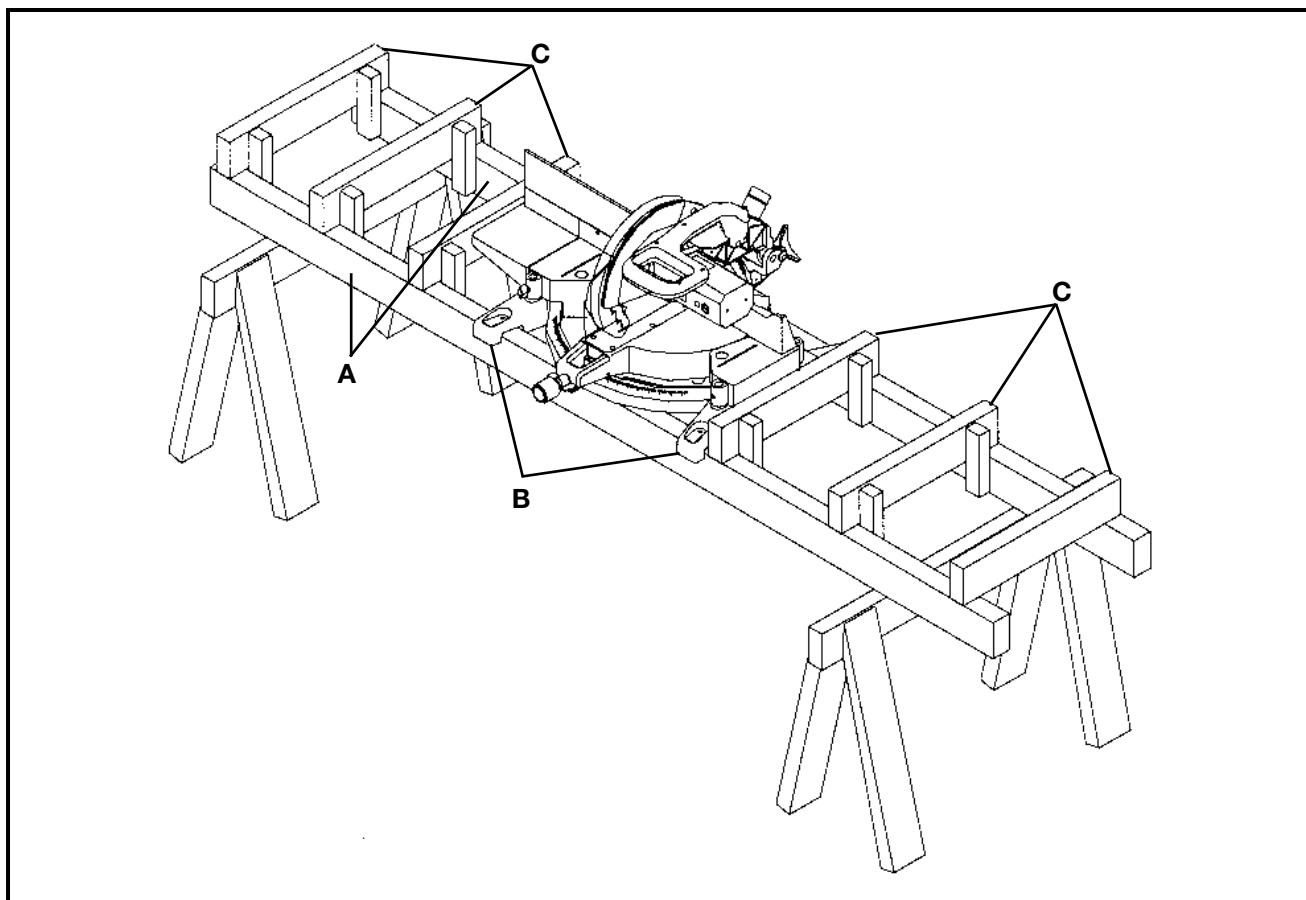

Fig. 41
One of the unique features of the miter saw is the ease of constructing work supports. Fig. 41 illustrates the miter saw mounted to two standard 2 x 4's (A). Fasten the grooves in the two mounting legs (B), to the 2 x 4's, using four screws through the four holes in the mounting legs. The length of the 2 x 4's (A) can vary, depending on preference. The distance from the top of the 2 x 4's (A) to the compound miter saw table 3 1/4". Standard 2 x 4's (C) can then be fastened to the top of the 2 x 4's (A). The top of the 2 x 4's (C) will then be the same height as the miter saw table, or minor adjustments can easily be made depending on the height of the 2 x 4's. This method will provide support for long workpieces using standard 2 x 4's instead of constructing an expensive, complicated work support.